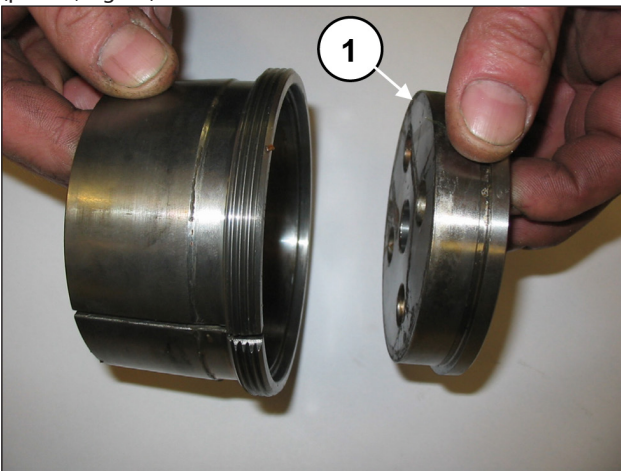

Fig. 21
Separate the bush locking flange from the pressure bush (pos. ①, Fig. 21).